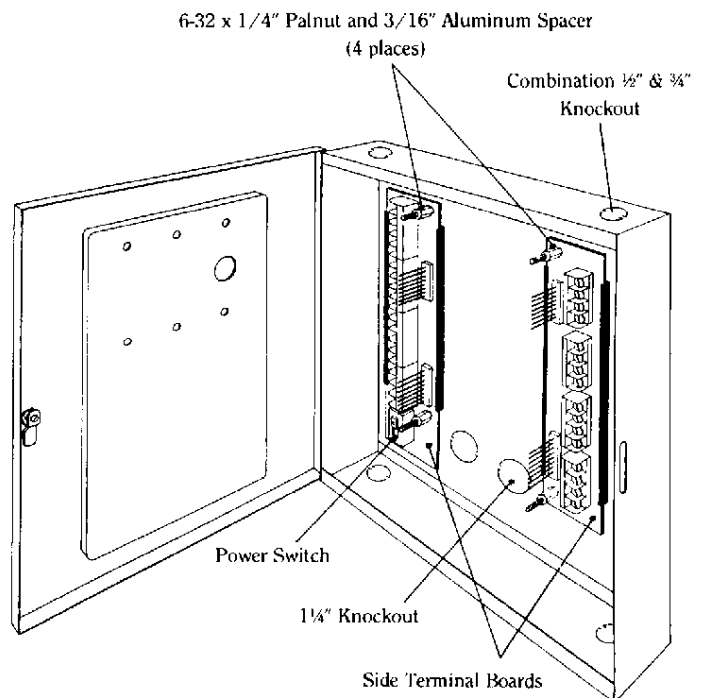

Figure 2-2 Control Box Diagram
4. Turn master power switch off (down position). This switch is located below terminal 19. (See Figure 2-2.)
Step 1. Verify that the master power switch is turned off. (Figure 2-2).